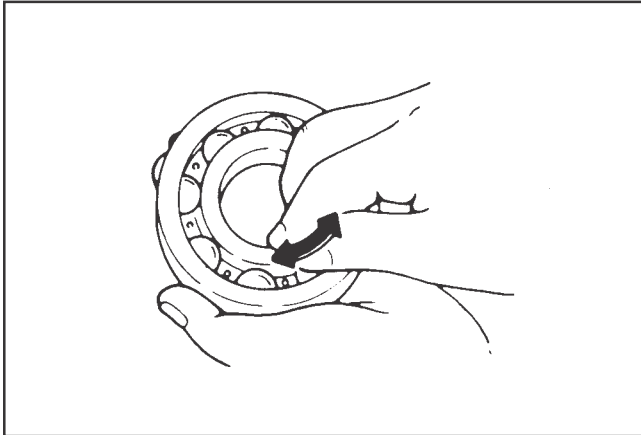

Figure 9-63. Checking Bearing Play.
6. Check the reduction system bearings for wear or excessive play. See Figure 9-63. If bearing removal is required, use an internal bearing puller to remove the housing bearings. An arbor press should be used for removal of the others.
7. Check the reduction system bearings for wear or excessive play. See Figure 9-63. If bearing removal is required, use an internal bearing puller to remove the housing bearings. An arbor press should be used for removal of the others.
- Check the reduction system bearings for wear or excessive play. See Figure 9-63. If bearing removal is required, use an internal bearing puller to remove the housing bearings. An arbor press should be used for removal of the others.